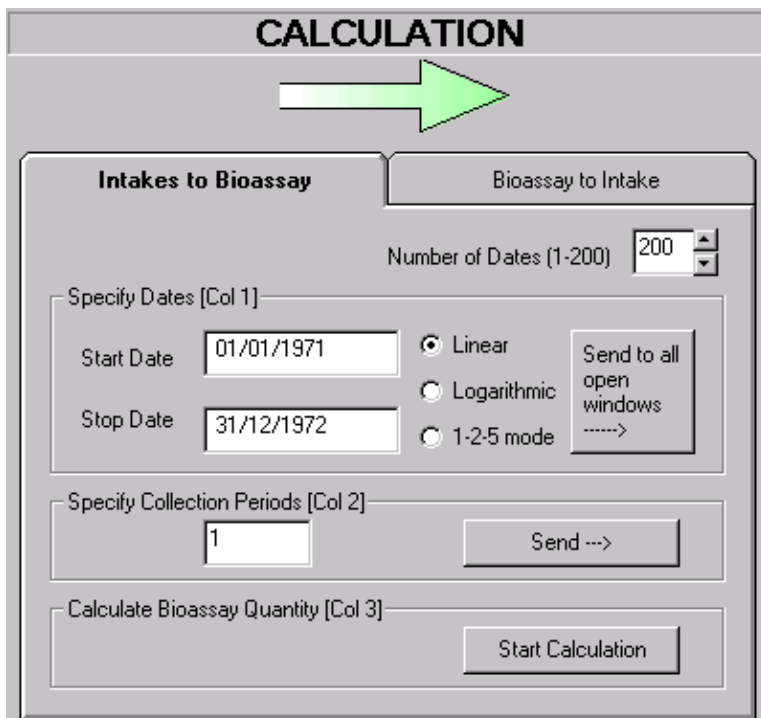

Figure 4.15. Bioassay calculation set as "Intakes to Bioassay" and indicated by a green arrow.
2. From **left** to **right** - value(s) of Intake\(s\) to predicted Bioassay Quantity - as indicated by a **green** arrow (Figure 4.15).